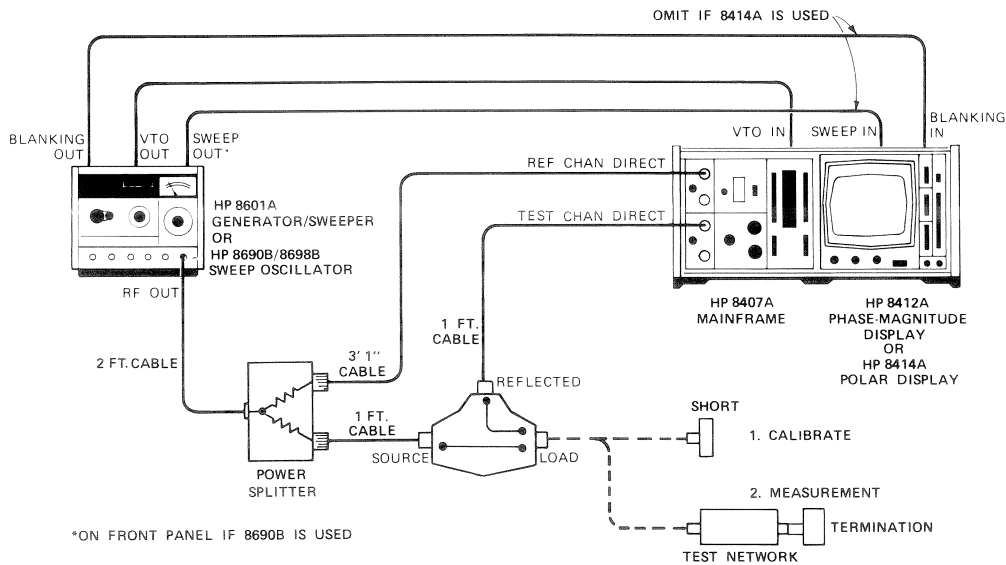

Figure 5. Basic Setup for Reflection Measurements
Be sure the HP 8721A Directional Bridge is being used as a reverse coupler, not as a forward coupler during a reflection measurement (see Figure 5). This ensures that only the reflected signal will enter the test channel ( $E_{\text{REFLECTED}}$ )
- The HP 11652A is used as shown in Figure 5 when measuring complex impedance, reflection coefficient or return loss (VSWR).
1. Set up the equipment as shown in Figure 5.